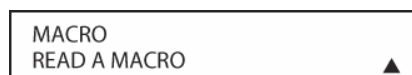

Figure 65
- At the next menu screen, press the **▼/▲ Navigation Button [oval 16]** until the bottom line in the remote's LCD display shows READ A MACRO. Press the **Set Button [oval 18]** to begin the process of reading a macro. (**Figure 65**)